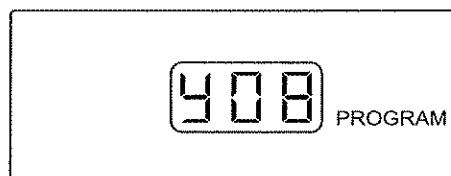

Figure 2-16
5. To adjust the minute (M) you will need to press and hold the **SET** button until the center digit flashes. You will notice that the Month and Minute both use the (M). Pressing the up and down arrow buttons will adjust the value of this digit. When you have selected the number that you want, press the right button to adjust the right digit in the same manner with the up and down arrow buttons. When you have the proper number displayed for the Minute (M) press and hold the **SET** button for 3 seconds until the monitor beeps and the display flashes twice. (The monitor will now display like **Figure 2-16**).